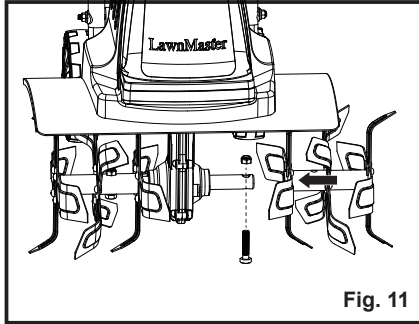

Fig. 11
2. Now the M8 screw is pushed through and secured with the M8 locking nut (Fig. 11).